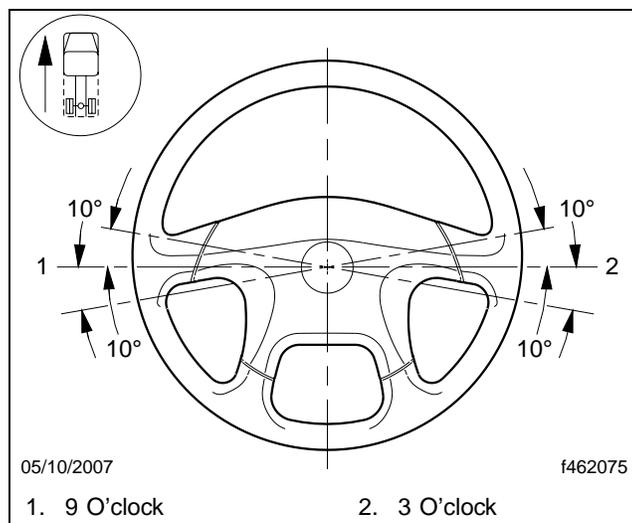

Fig. 7, Steering Wheel Centered
- 23. Make sure that the steering wheel is within 10 degrees of center as shown in **Fig. 7**. If it is not, remove and center the steering wheel.